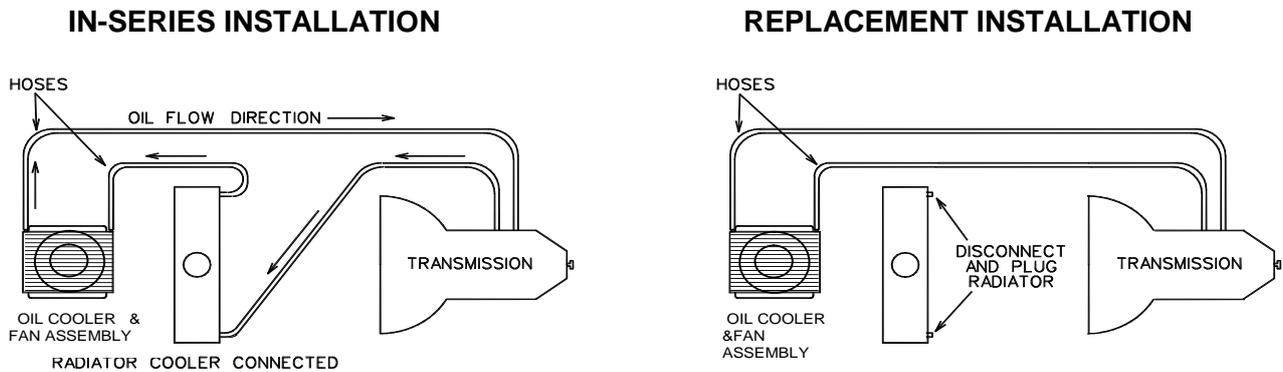

FIGURE 2
TYPES OF INSTALLATION (FIGURE 2)
8. Cut hose to easily reach (no kinks) downstream oil pipe on radiator or transmission (refer fig 2).
9. Fit hose clamp over end of hose and slide hose onto radiator pipe or transmission about 30mm. (refer fig 2)
- A1. Place container under oil return line and carefully cut line 100 mm from radiator or transmission. (refer fig 2)